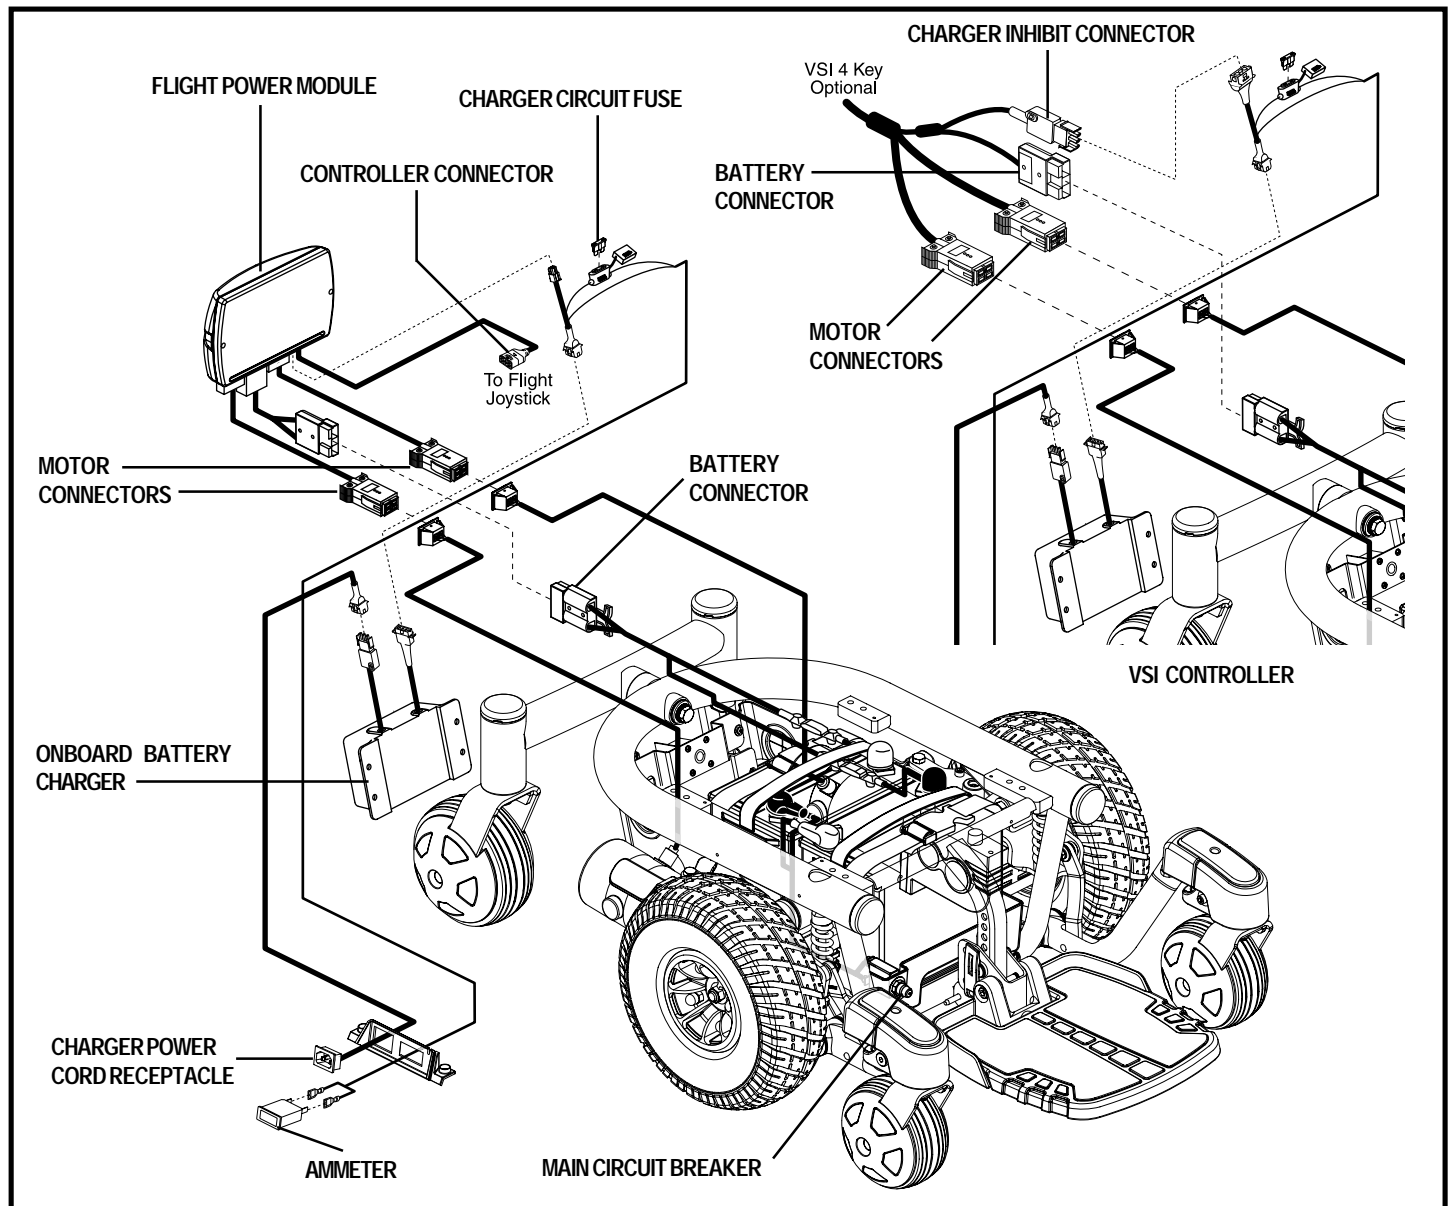

Figure 7. Quantum 610 Series Electrical Components (Shown With Optional Onboard Battery Charger)
The electrical components are located inside the power base. The ammeter and the charger power cord receptacle for the optional onboard charger are located on the right side of the power base. The main circuit breaker is located on the front of the battery tray. The controller connector(s) are located inside the power base. See figure 7.
6. Plug the controller connector into the power base. See figure 7.
3. Disconnect the controller connector(s) from the power base. See figure 7.